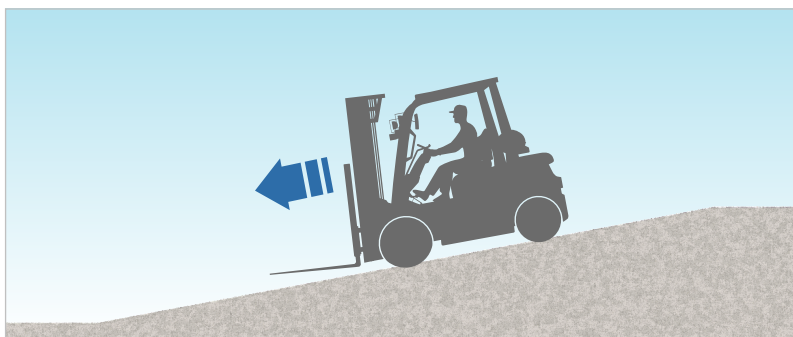

Figure 5.1. When traveling downhill without a load, drive forward.
- When traveling downhill, drive forward (Figure 5.1).